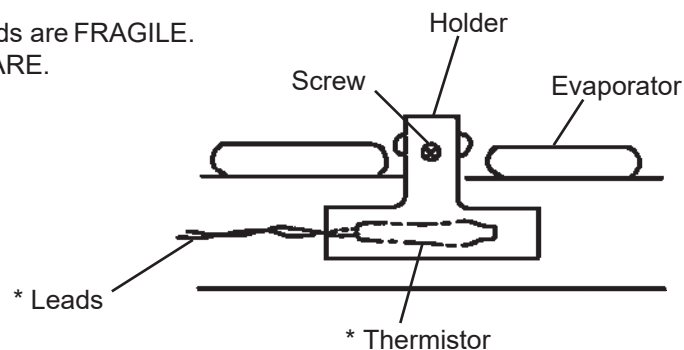

Fig. 13
- 5) Install the new thermistor in the reverse order of the removal procedure, by using a sealant (high-thermal conduct type). See Fig. 13.